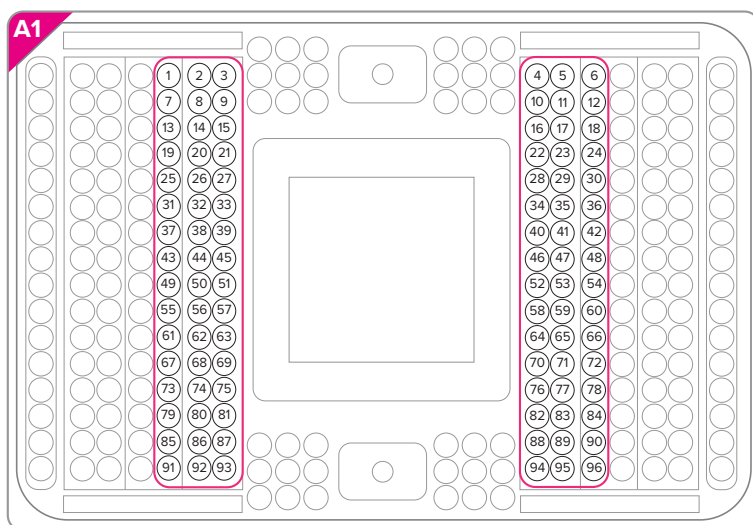

Figure 7. Pipetting map of reaction products on the C1 IFC
- 6 Using an eight-channel pipette, pipet the harvested amplicons from the inlets according to Figure 7 and Table 11 and place in the diluted harvest plate.